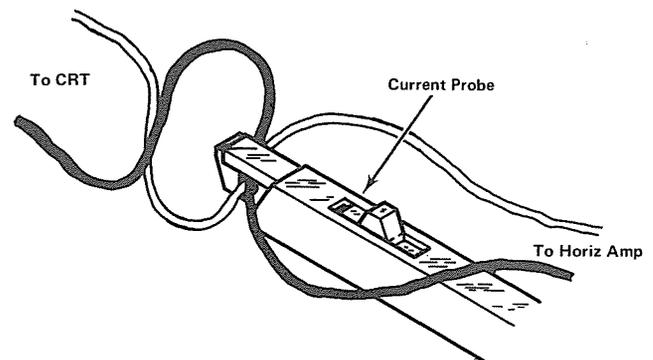

Fig. 5-29. Proper connection of current probe to horizontal deflection leads for high-speed timing calibration.
d. Hook the current probe around the crossed horizontal deflection leads on the 475 (see Fig. 5-29).